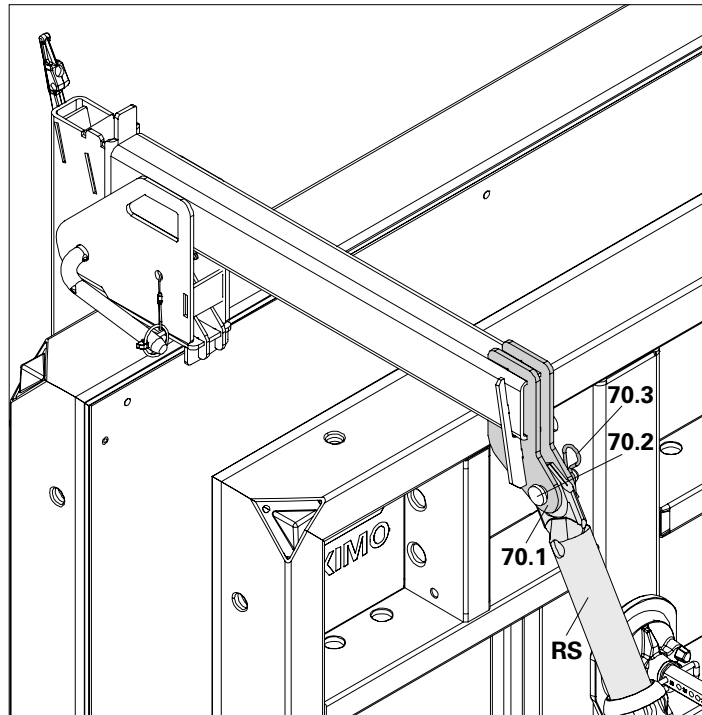

Fig. A6.01a
Connect Push-Pull Prop (RS) and connection lugs (71.1) with bolts (71.2) and cotter pins (71.3). (Fig. A6.01a)